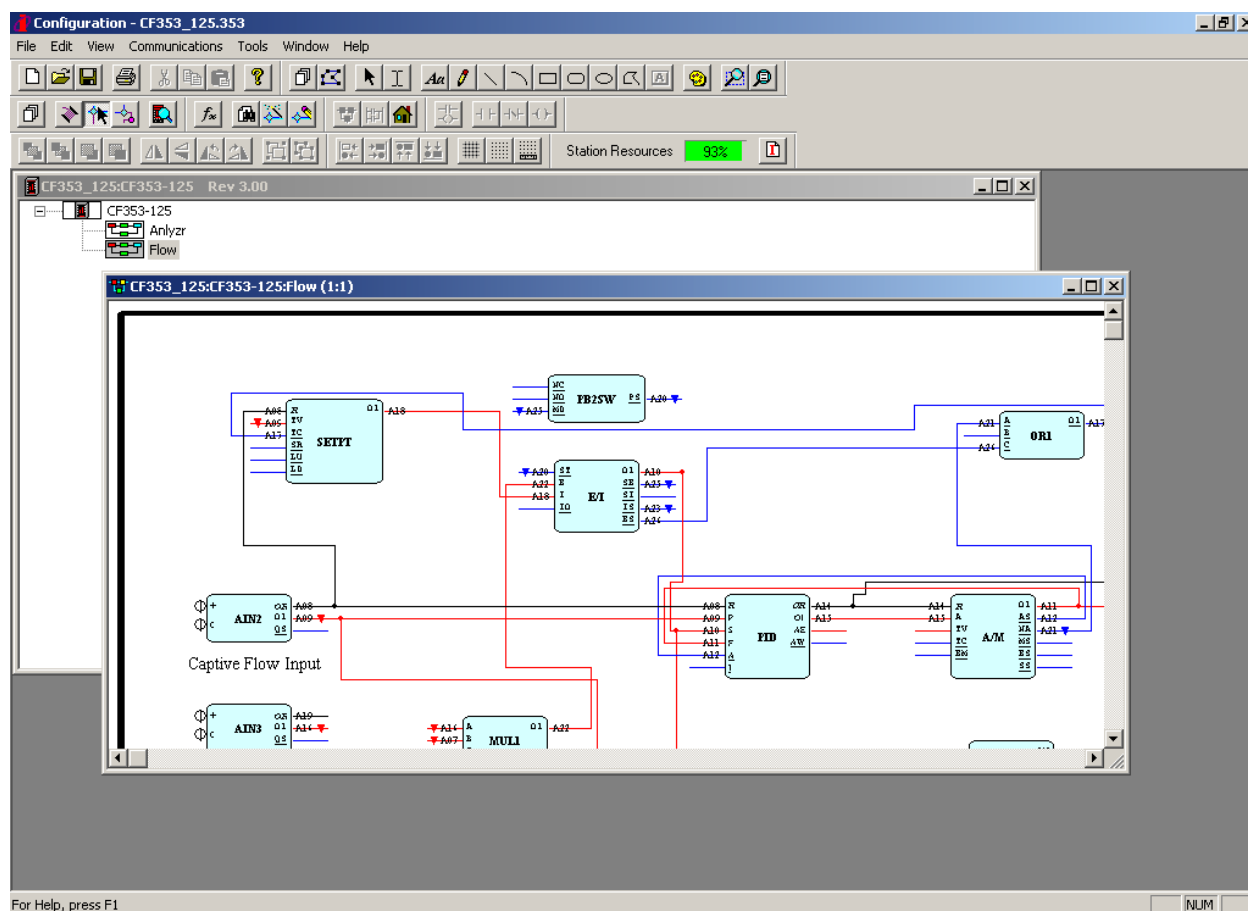

Figure 1-1 Typical configuration screen
This Software Guide describes using the Siemens *ilconfig*[™] Graphical Configuration Utility (Version 4) to develop configurations for the Siemens 353 family of process automation controllers.¹ Controller configurations are created on a personal computer (PC) by selecting, placing, and interconnecting function block and ladder logic graphic elements. A controller does not need to be connected to the PC while building the configuration. An example of a configuration screen is shown in Figure 1-1.
The **Function Block View** provides workspace for developing a loop using function block objects. In this view, function blocks are selected, placed, and connected to create a function block loop. The active screen in Figure 1-1 is a view of a function block loop.